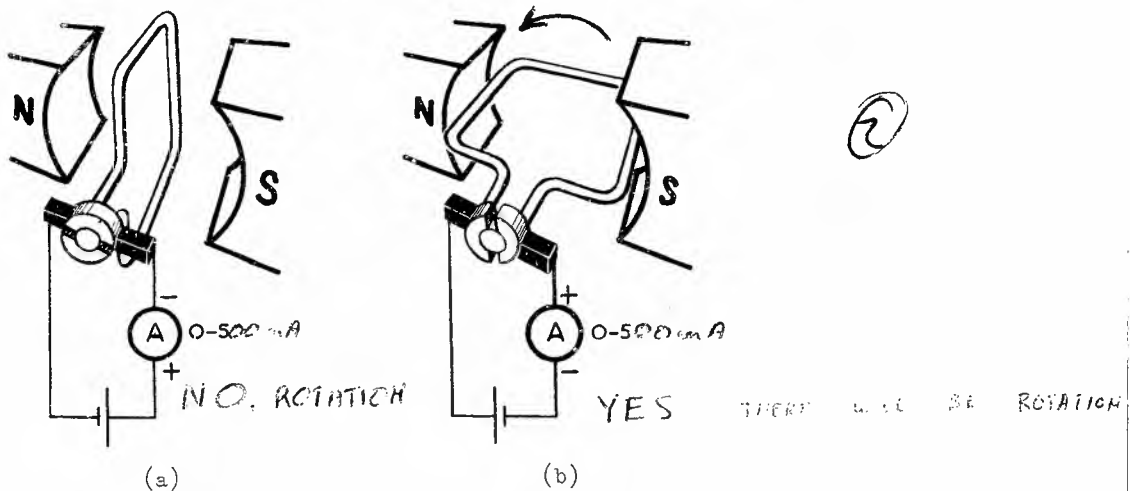

FIG. 2.
STEP 7. Connect the Motor Model to the battery supply as in Fig. 2.